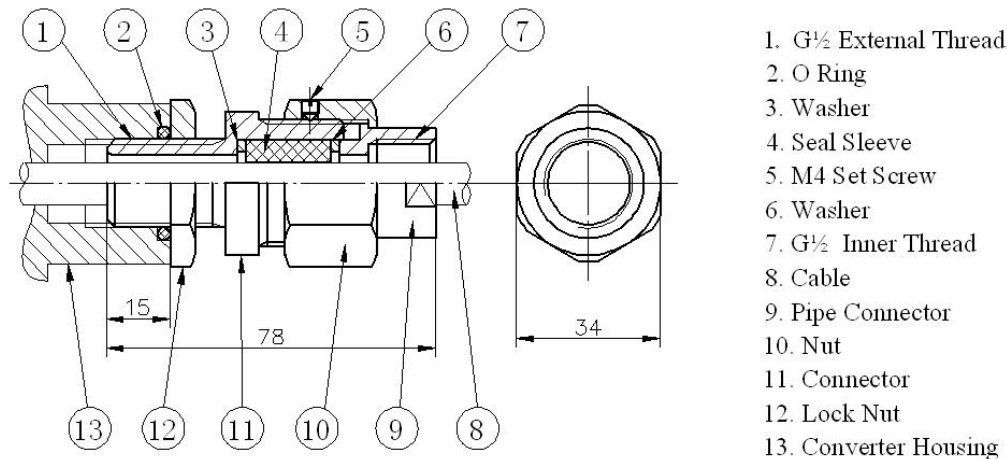

Figure. 4 Explosion-Proof Seal Connector
1) Installation of Explosion-Proof Seal Connector: (see Fig.4)